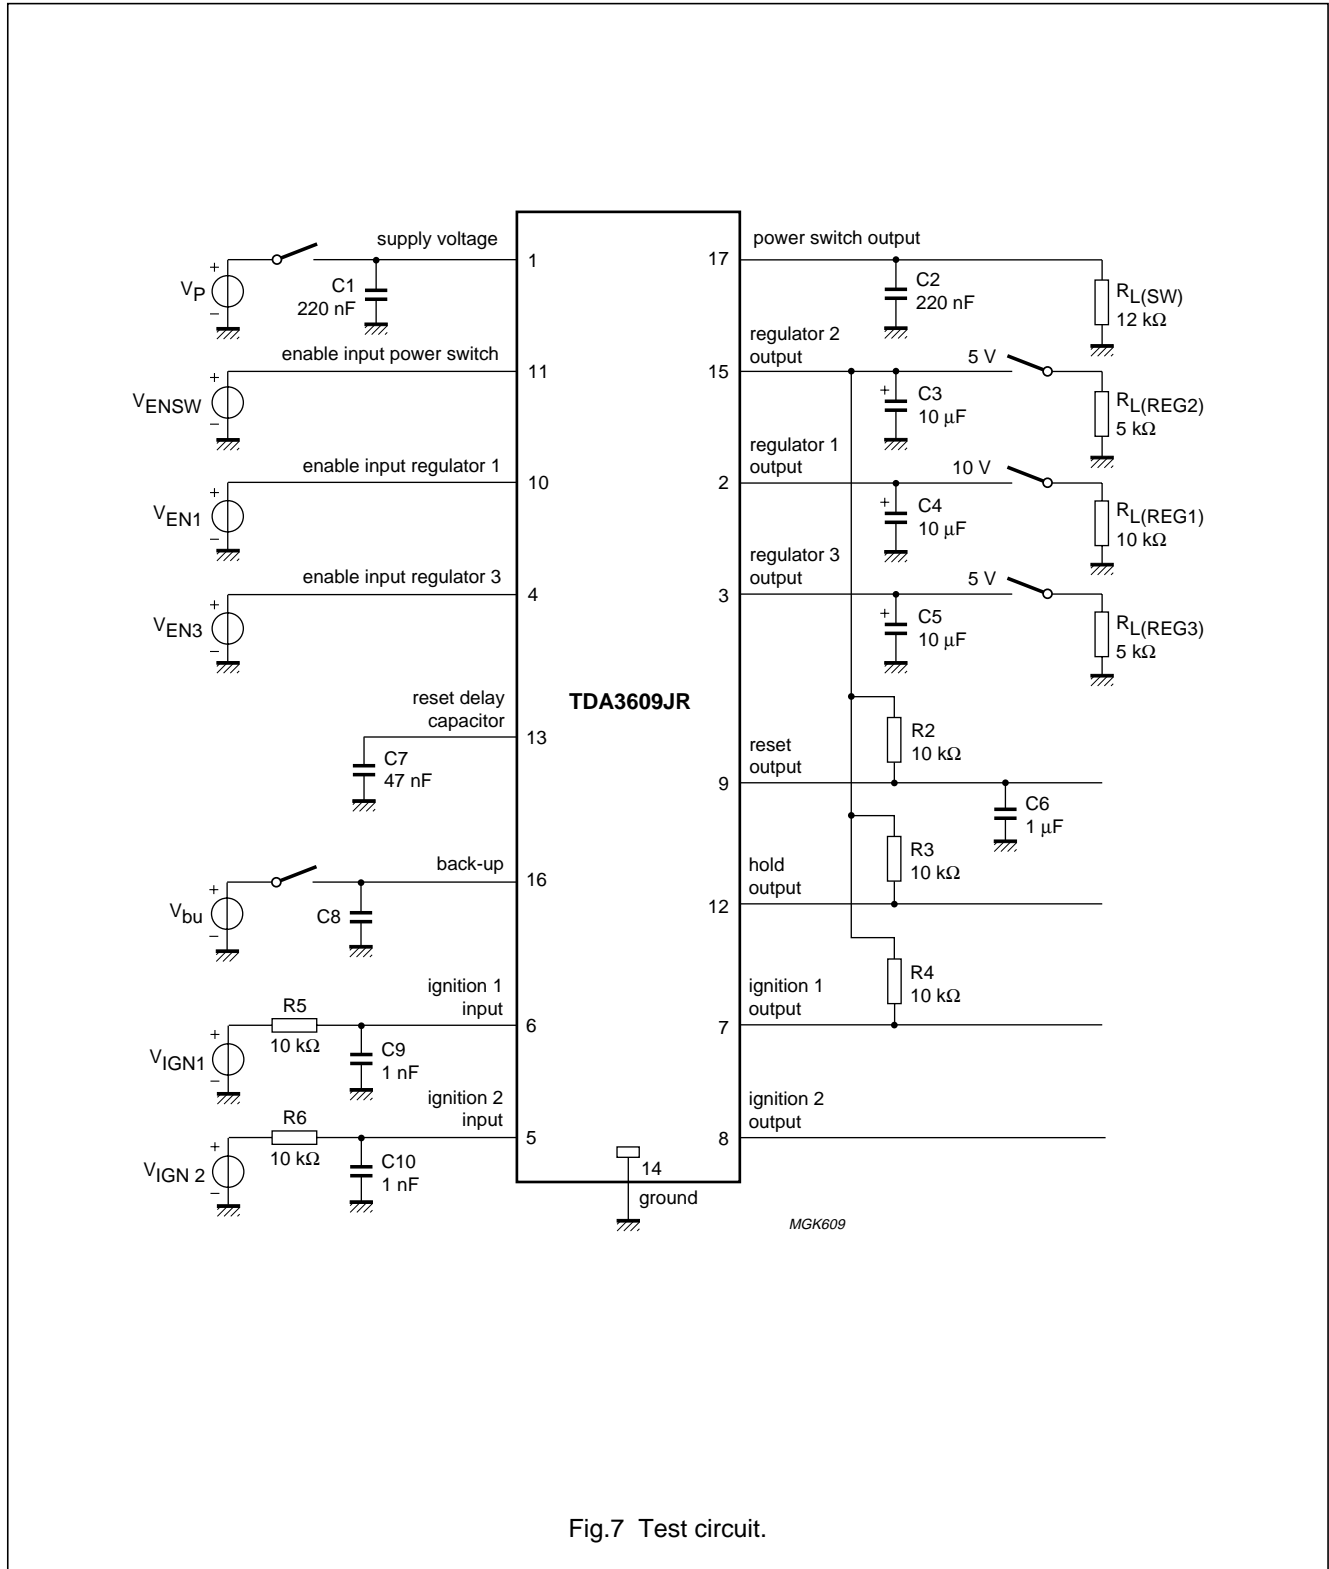

Fig.7 Test circuit.
- The quiescent current is measured in the standby mode. So, the enable inputs of regulator 1, 3 and the power switch are grounded and R_{L(REG2)} = ∞ (see Fig.7).